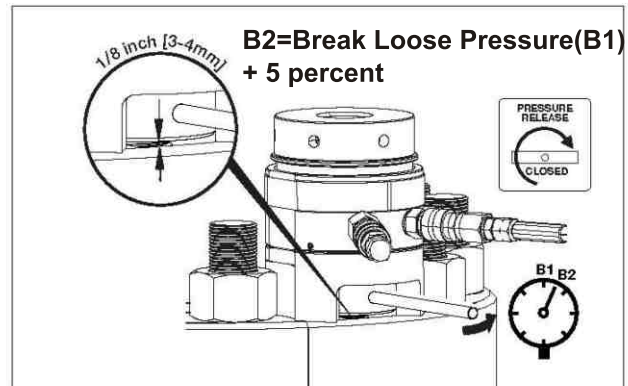

Figure 4.4-3 Turning Up the Nut
4.4.5 While holding the pressure constant, turn up (loosen) the nut at the first tensioner, so that there is approximately a 1/8 inch [3-4 mm] gap between the nut and the joint surface. See Figure 4.4-3.